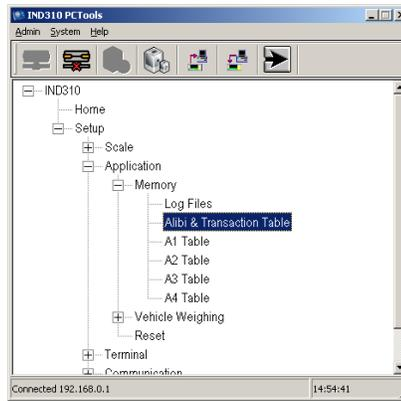

Figure B-19: Alibi & Transaction Table Selected in the Menu Tree
- Follow the setup menu tree to Alibi & Transaction Table (Figure B-19).